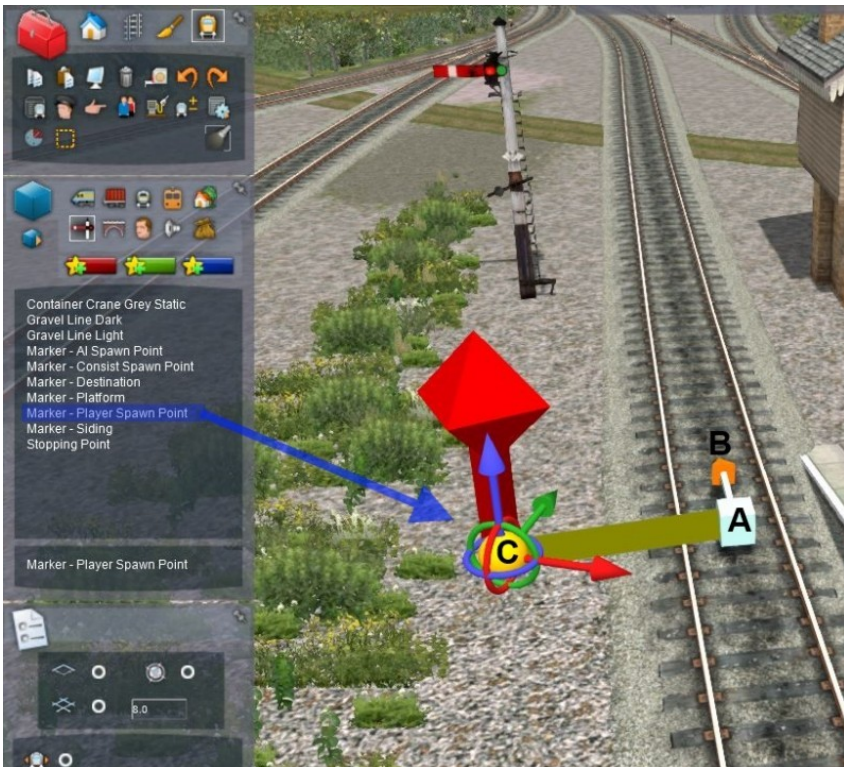

Figure 36. Player spawn marker which is the minimum requirement for a Quick Drive Scenario.
To place the **Player Spawn Point** you select and pop the marker (C) on the ground (Figure 36). As soon as you do the arrow (A) shows up and you place this at the point you want your train to be spawned from. Initially the arrow is double headed. How you place C is not important except that you are going to have select it again and so hiding it in bushes, trees, platforms isn't a good idea. Place it on some clear level ground.
The first thing is to ensure your Player Consist is properly placed. Imagine that you want to place the consist so the loco is by the starting signal with carriages stretching back down the platform. You will want to place the Spawner so the Arrow in Figure 36 (B) points in the direction of travel and the Box of the Arrow (A) is where the front of the loco is. To change the direction of the Arrow click on it holding down the [Shift] key.